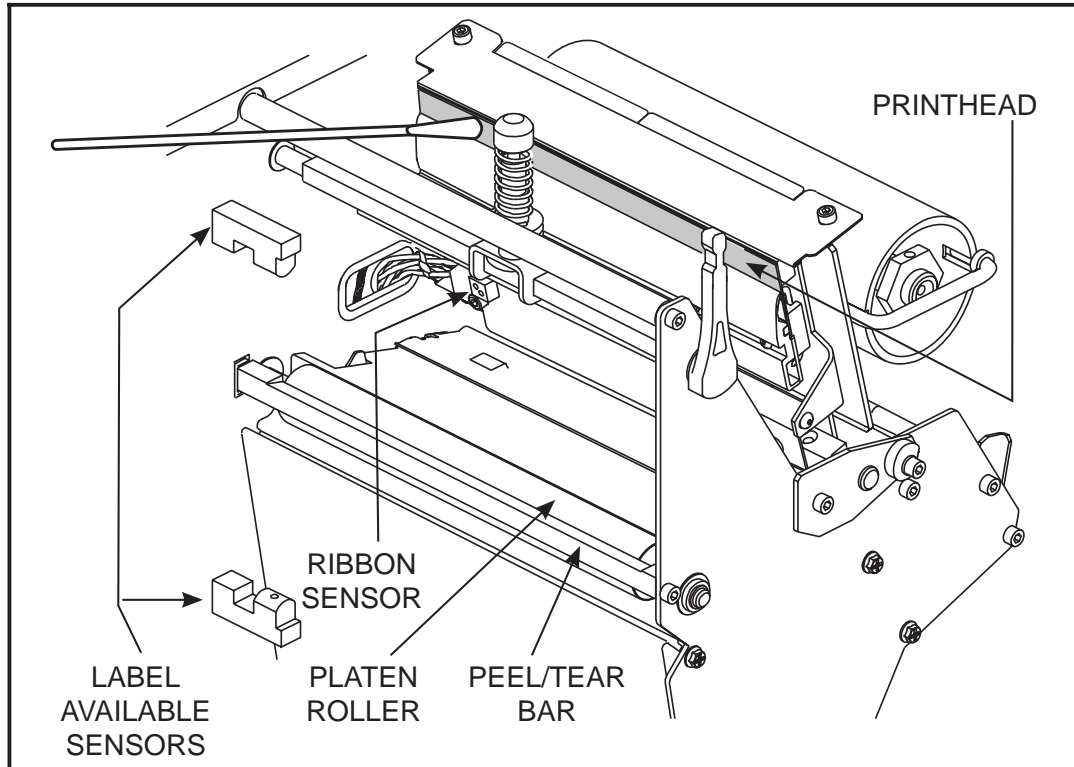

Figure 4.1 Printhead Cleaning
3. Use an applicator moistened with 70% isopropyl alcohol to wipe the print elements from end to end. (Refer to Figure 4.1. The print elements are the brown strip just behind the chrome strip.) Allow a few seconds for the solvent to evaporate.